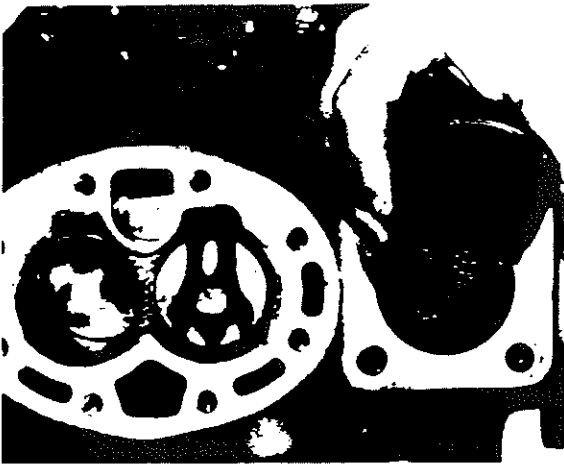

Figure 3-18. Installing Suction Valves and Strainer
- g. Remove the suction strainer. (See figure 3-18, page 3-12.) Clean the strainer screen with a solvent. Inspect the strainer; if damaged, replace it.
- b. Install suction valve positioning springs on dowel pins. Assemble positioning springs with spring ends bearing against cylinder deck. The spring will bow outward in the middle. (See figure 3-18.)
Remove and clean the suction strainer. (See figure 3-18.) Check it for damage. If it is damaged, replace it. Reinstall the suction strainer and valve blank-off pad using a new gasket.